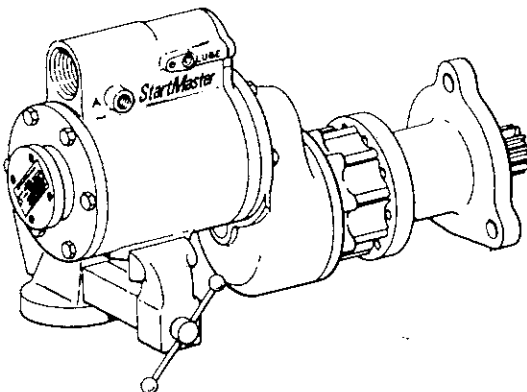

Figure 4.2
1. Remove the muffler (1) and muffler retaining assembly.
2. Clamp muffler flange in vise equipped with copper jaws. See Figure 4.2.